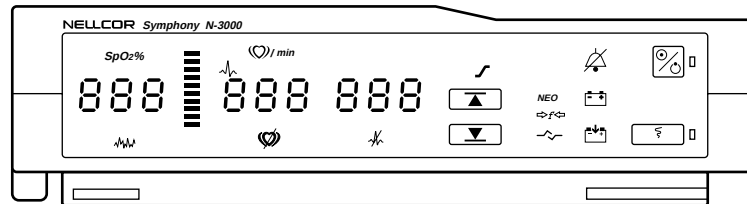

Figure 3-1: Self-Test Display
- b. All indicators light for a few seconds as illustrated in Figure 3-1. Verify that the SpO₂% (left-most display), HEART/PULSE RATE (middle), and AUXILIARY (right) displays all indicate “8.8.8.”.